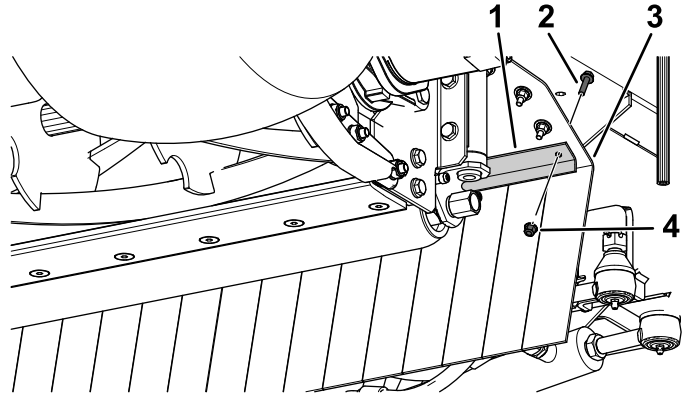

Figure 9
2. Secure the deflector strap to the wide deflector using 2 flange-head bolts (6 x 25 mm) and 2 locknuts (6 mm) as shown in Figure 9.